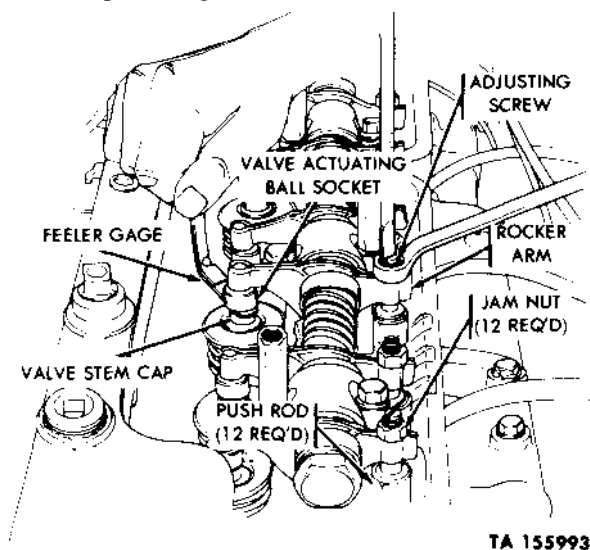

Figure 2-45. Adjusting valve clearance.
(1) Start the engine and check the temperature gage to be sure that the engine coolant is still at normal operating temperature.
(2) With the engine idling, insert the feeler gage between the valve stem cap (fig. 2-45) and the valve actuating ball socket at each valve to check for proper clearance. Clearance should be .018 inches for intake and .024 for exhaust.
(3) If the clearance is incorrect, using a wrench and screwdriver, loosen the valve-adjusting screw jamnut (fig. 2-45), and turn the adjusting screw (clockwise to decrease, counterclockwise to increase) until proper clearance is obtained.
(4) Hold the screw in the adjusting position, tighten the jamnut, and again check the clearance.
(5) Repeat (2), (3), and (4) above until all valves are adjusted to the recommended clearance.
(6) Stop the engine.